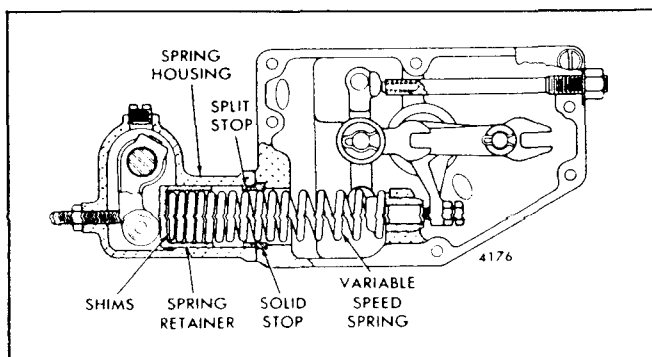

Fig. 4 - Location of Shims and Stops
3. Refer to the following table and determine the stops or shims required for the desired full-load speed. A split stop can only be used with a solid stop (Fig. 4).